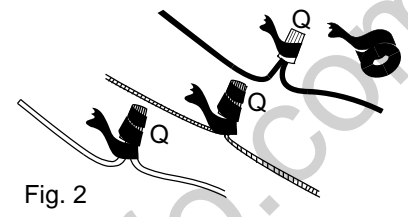

Fig. 2
2. Tape wire connectors (Q) and wires together with electrical tape. [Fig. 2]